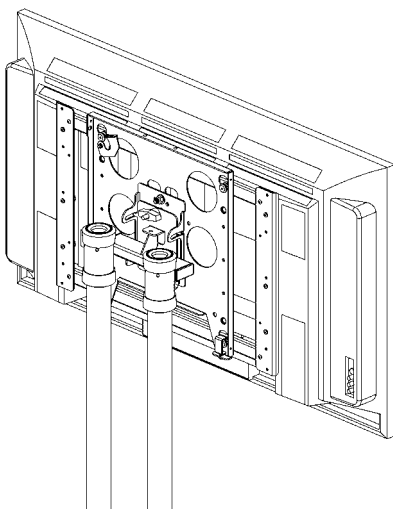

Figure 2
1. With the aid of another person, lift display up to the Chief mount, aligning the mounting buttons on the display with the teardrop slots in the face plate. See Figure 2. (NOTE: PTC cart shown. Other mounts are similar.)